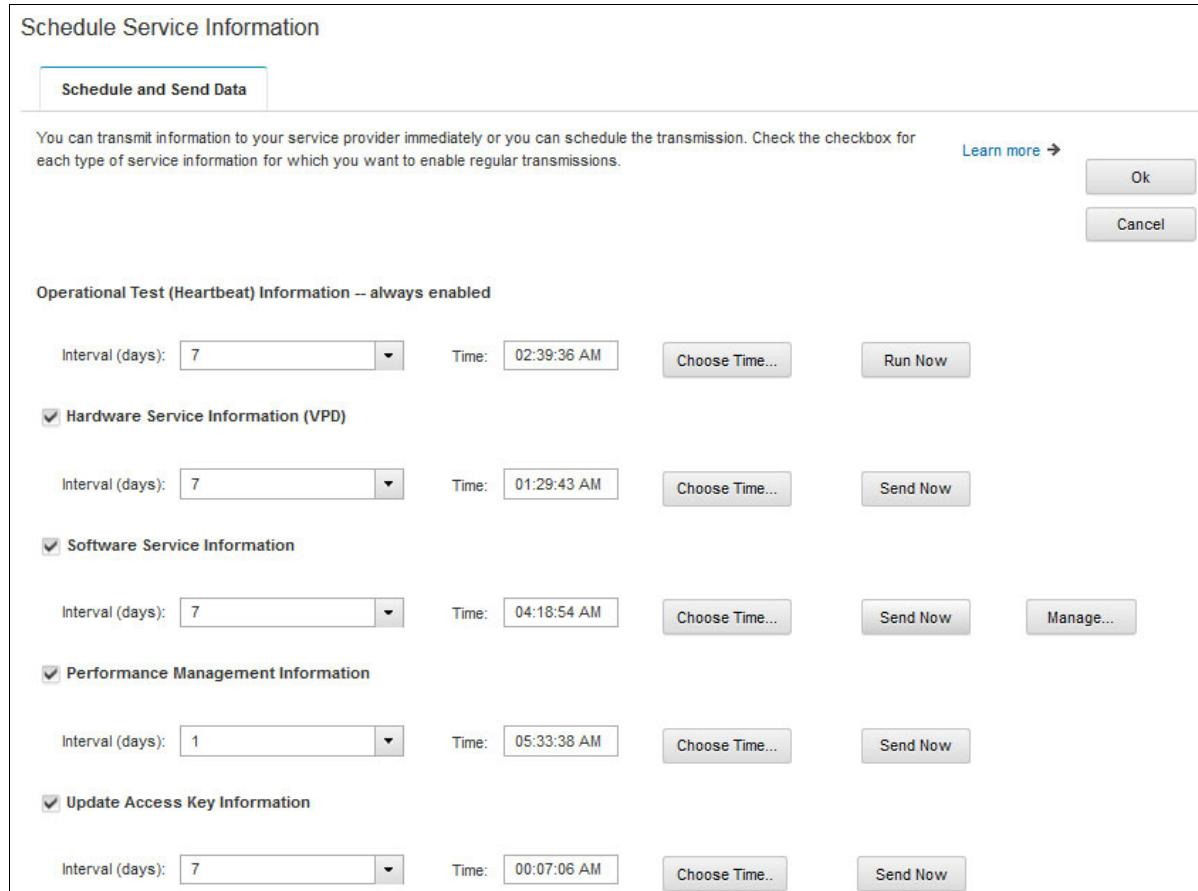

Figure 6-10 Schedule Service Information window
3. In the Schedule and Send Data page of the Schedule Service Information area (Figure 6-10), select the interval (in days) and the time to schedule repeating transmissions. Then, click **OK**.